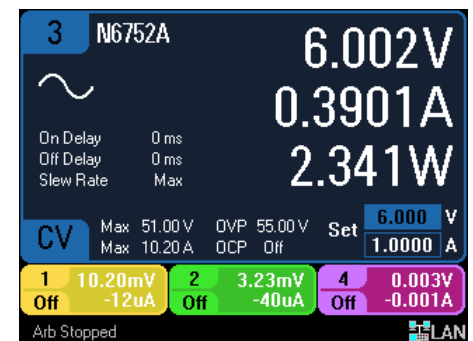

Figure 3 – Single Output View (3)
- Press the “Meter View” key once to bring up the Single Output View. This view shows more detail about the selected output, in this case **Output 3** (see Figure 3). Output On and Off delays, Slew Rate, Max V & I, and OVP and OCP levels are added to the display. You can still monitor the other three output’s V, I, & state (CV, CC, Off, etc.) at the bottom of the screen.